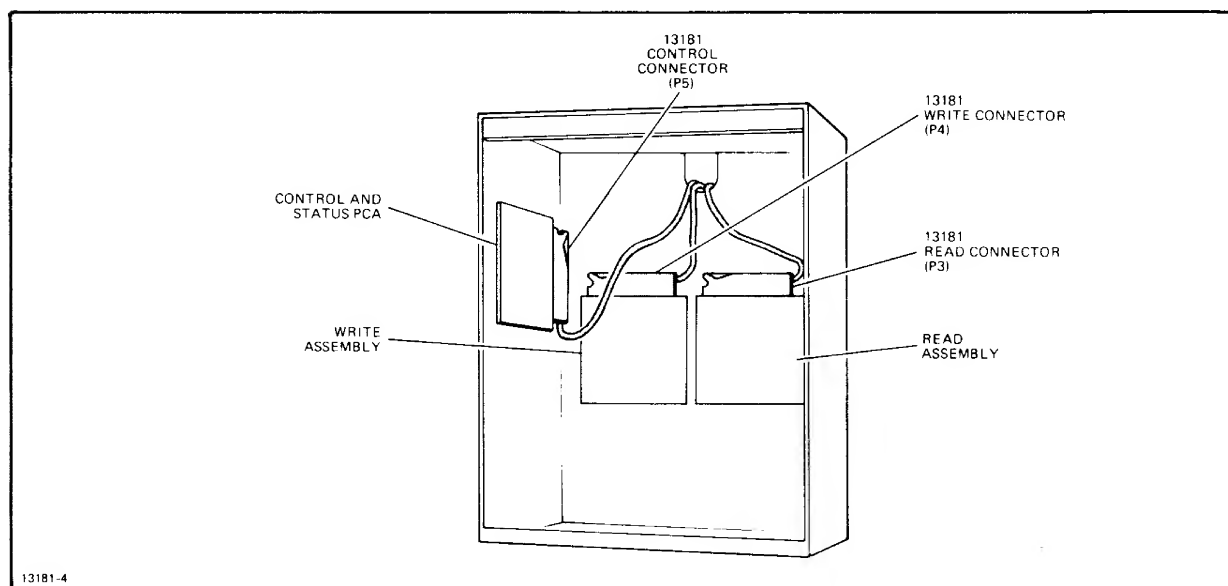

Figure 2-2. Interconnect Cable Installation at the Tape Unit
The interconnect cable consists of three, twisted-pair cables with keyed connectors and is installed as described below (see figure 2-2):
- b. Gain access to the tape unit interconnect facilities and route the cable within the tape unit as illustrated in figure 2-2.